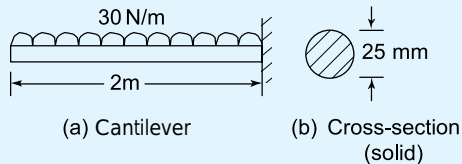
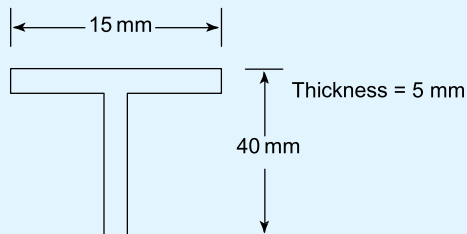

Figure 10.11
Figure 10.12
- A cantilever of length 2 m, carries a uniformly distributed load of 30 N/m, as shown in Figure 10.11. Determine the maximum stress in the cantilever. [39.1 MPa]
- If the beam of Figure 10.11 were replaced by another beam of the same length, but which had a cross-section of tee form, as shown in Figure 10.12, determine the maximum stress in the beam.